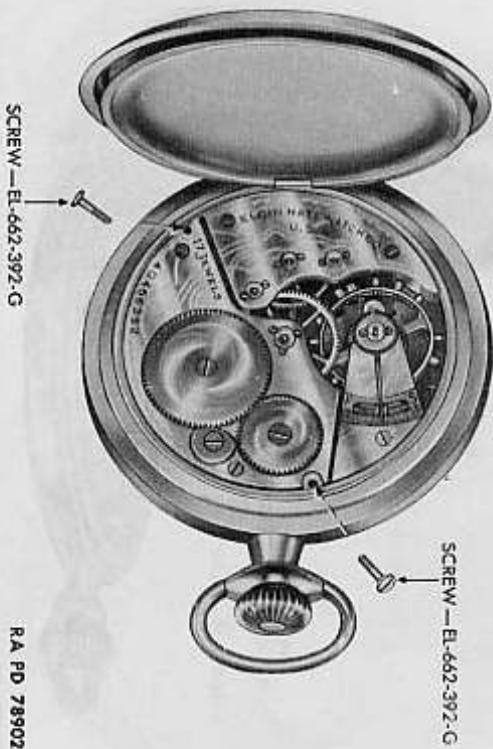

Figure 77 — Elgin Pocket Watch — Case Screws Removed
f. Remove Case Screws (fig. 77). Place watch on movement block of proper size, with train side up, and remove the two case screws.
o. Replace Case Screws (fig. 77). Replace two case screws and secure. Before tightening the case screws, see that the movement is centered in the case and that no binding exists in the stem.